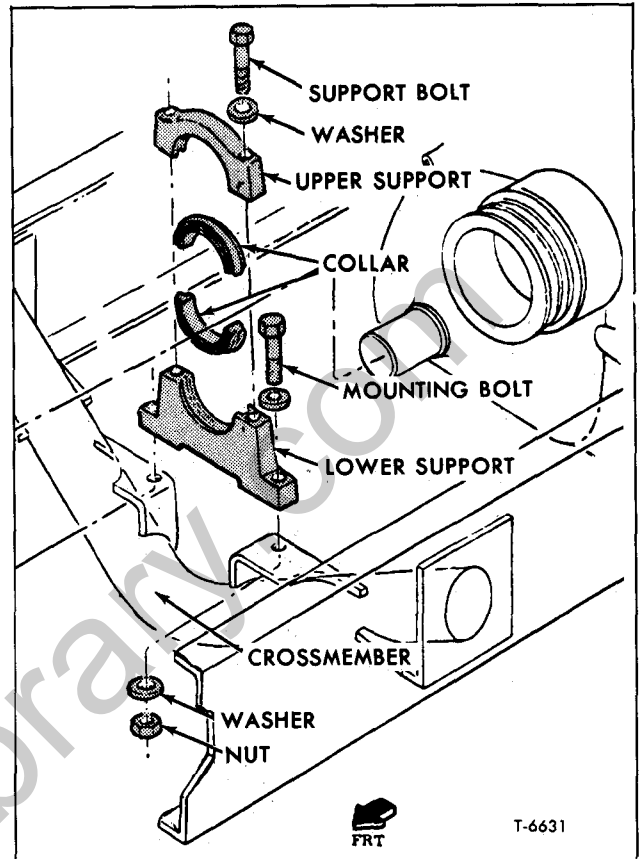
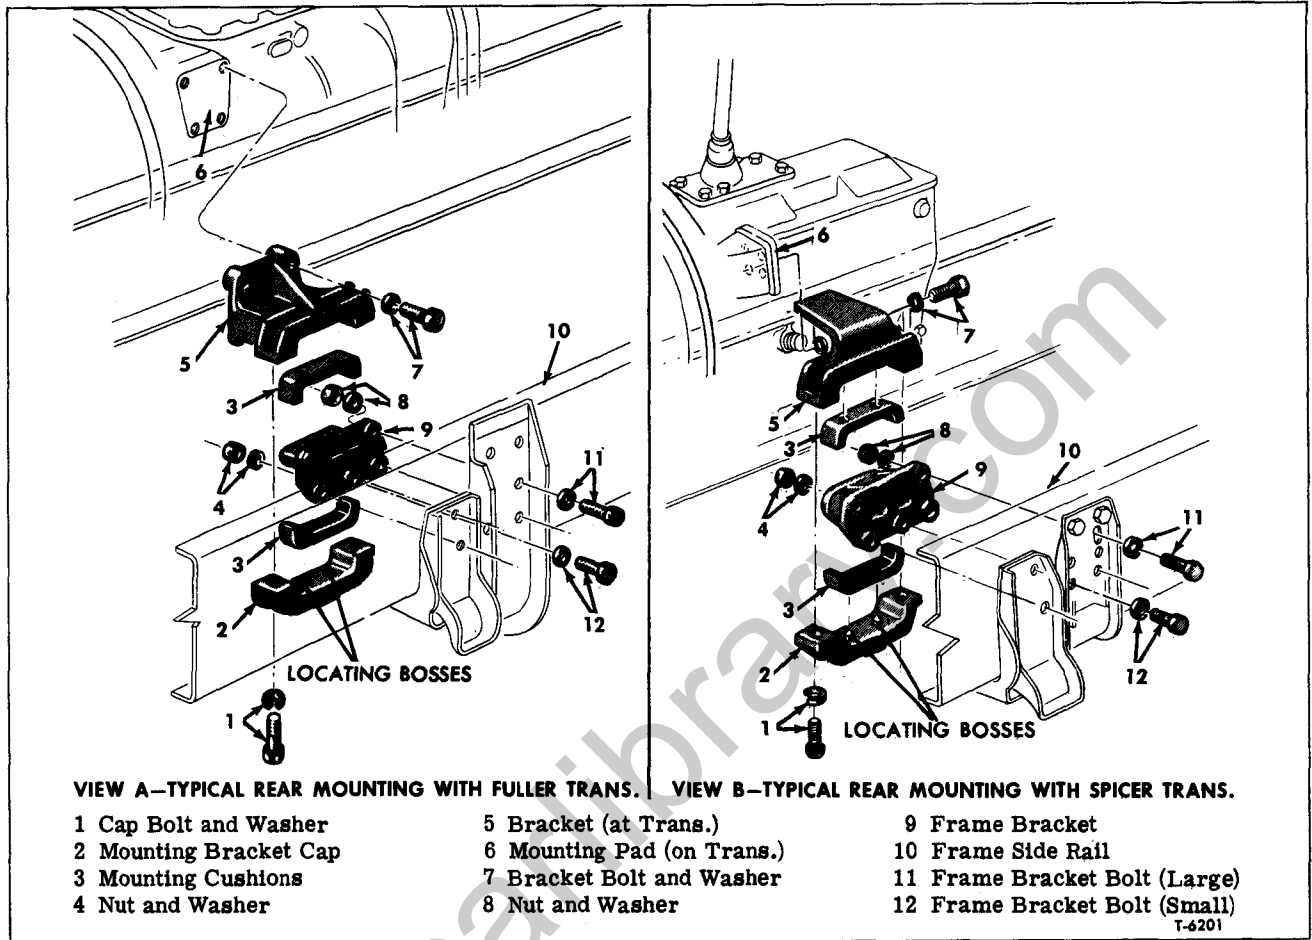

Figure 8—Engine Front Mounting Components on Alum. Tilt Series with Cummins Diesel Engine
Figure 11—Trunnion Type Engine Rear Mountings (Typical)
2. Refer to "TRANSMISSION ON-VEHICLE SERVICE OPERATIONS" (SEC 7B) of this manual, for information on transmission rear support on vehicles so equipped, and disconnect as necessary to allow rear end of transmission to move downward. Also loosen cap bolts at engine rear mountings (fig. 11).
4. If engine front mounting bracket (6) requires replacement, the pulley and damper must be removed first. When installing bracket, torque bolts to 85 foot-pounds, and torque damper hub retaining bolt to 300 foot-pounds.
5. Lubricate mounting cushions with special rubber lubricant, insert the cushions (2) through openings in bracket (6), then lower the front of engine so weight is on mounting cushions.
6. Install bolts and washers as shown in figure 8 and tighten mounting bolt nuts and rear mounting cap bolts to torques indicated on "Engine Mounting Bolt Torque Chart."
NOTE: Key numbers in following text refer to figure 8.
identification letter is facing forward on both supports (fig. 8).
NOTE: Key numbers in following text refer to figure 11.